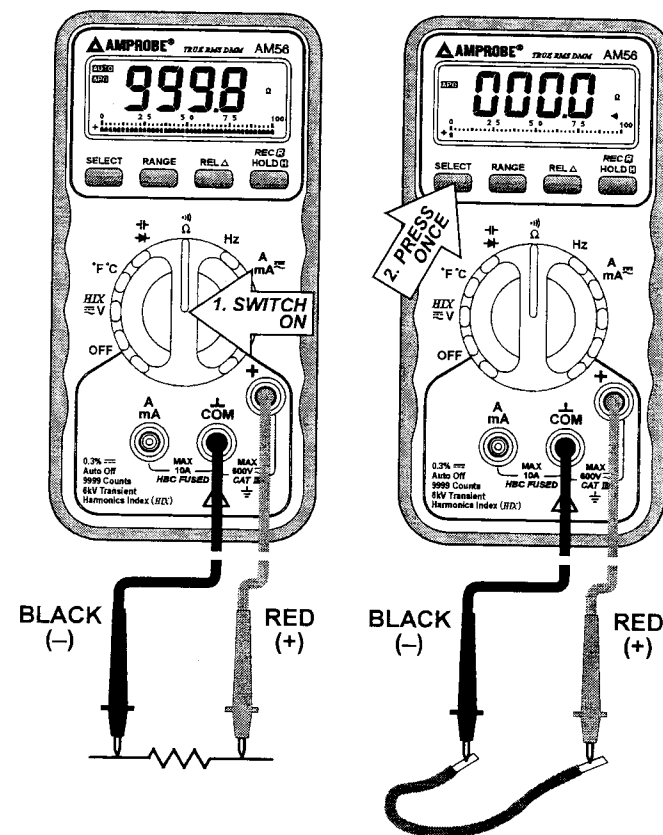

FIG 7. Ω RESISTANCE, $\cdot\cdot\cdot$ CONTINUITY FUNCTIONS
- 3) Connect the test leads as shown in **FIG 7** and observe the digital display